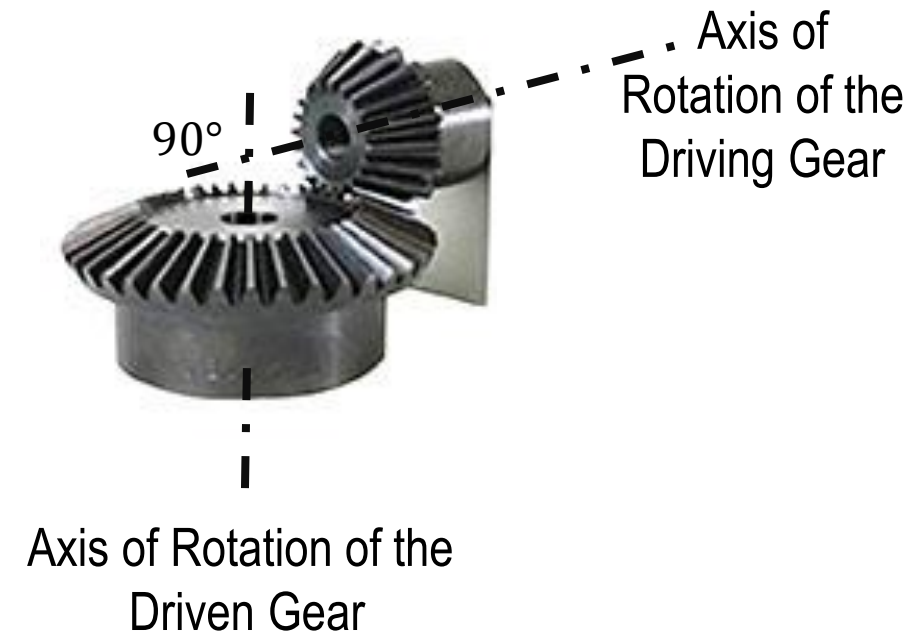

Figure 8-3 Bevel Gears
- They are used to transmit motion between intersecting shafts as shown in Figure 8-3.